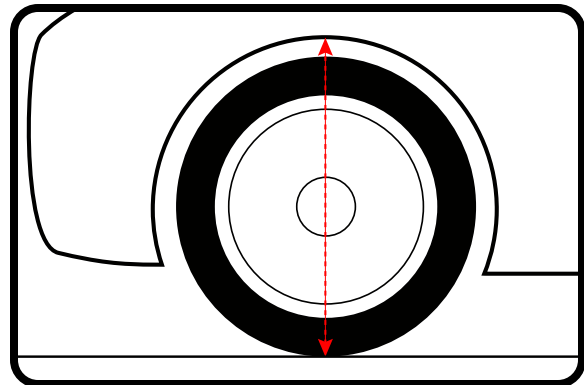

Figure 2
**2.** At the centerline of the wheel, take a measurement from the fender lip to the ground (Figure 2).